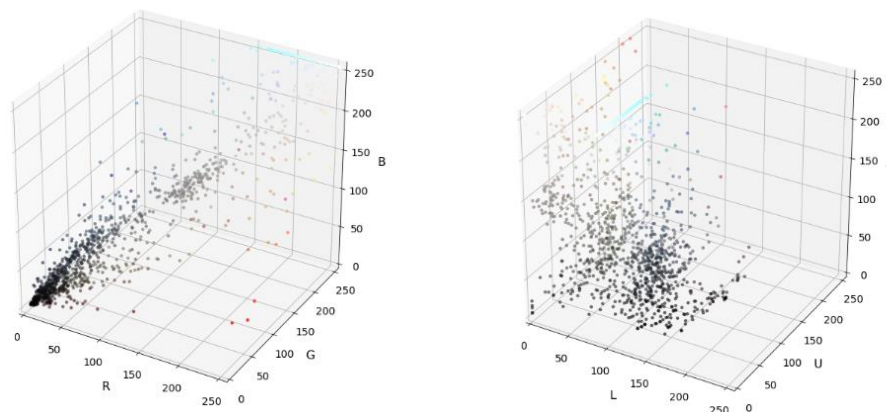

Figure 2: RGB color space on the left (colors scattered), LUV color space on the right (colors grouped😊)
- Certain lesson images have suggested YUV, and this was verified when I tried testing the various images by myself – I can see the separation of the vehicles in a nearby space on the graph (**figure 2**).